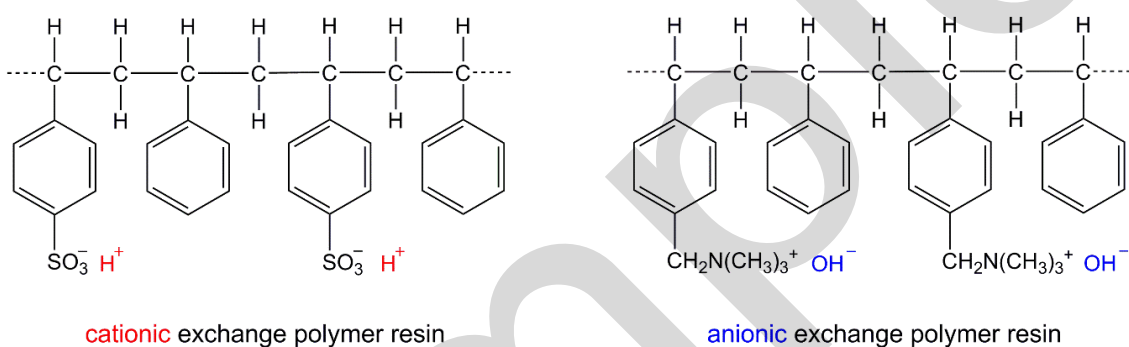

Figure 1.47: Polymer resins used in ion exchange chromatography.
Ion exchange chromatography (IC) is an analytical technique used to separate the components of a mixture containing charged substances including ions and polar molecules and is commonly used in the separation of amino acids and proteins. The separation of components occurs inside a column containing porous beads. The beads are composed of a charged polymer resin with cations or anions attached to the surface. Figure 1.47 shows the structures of two polymer resins used in ion exchange chromatography.